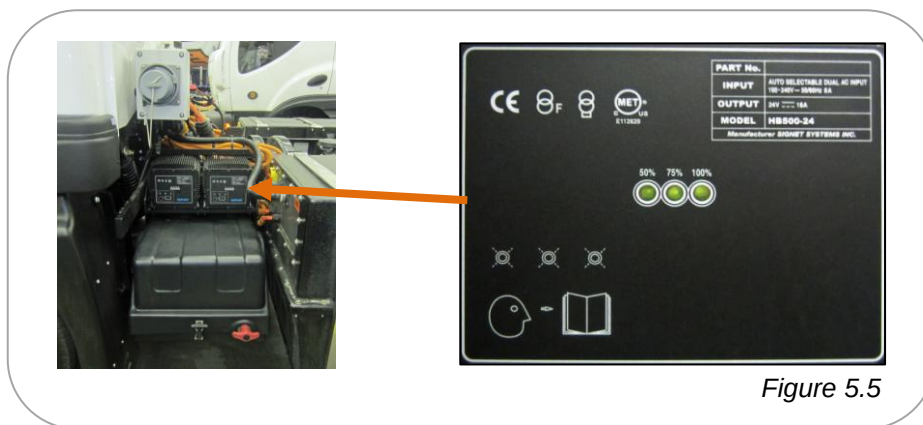

Figure 5.5
- Charging progress of the 24V (2x12V) System batteries is displayed by the 50%, 75%, and 100% green LED lights on the 24V charger. (Figure 5.5)
- ✓ The 24V batteries are fully charged when the 50%, 75%, and 100% green LED lights on the chargers are all fully illuminated.(Figure 5.5)